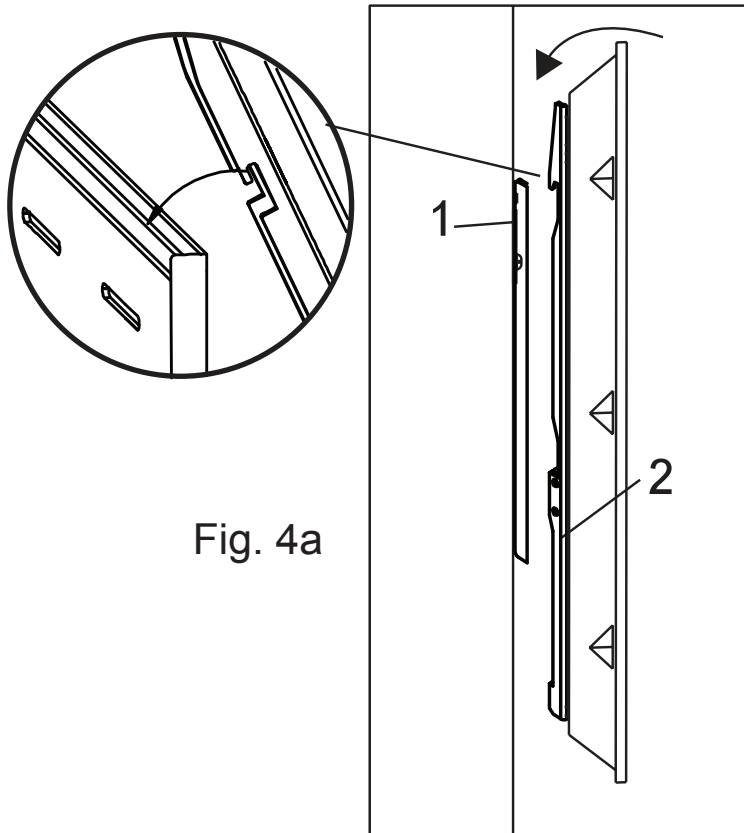

Fig. 4a
1. Lift the television display with the brackets securely attached up to the wall plate (Fig. 4a).